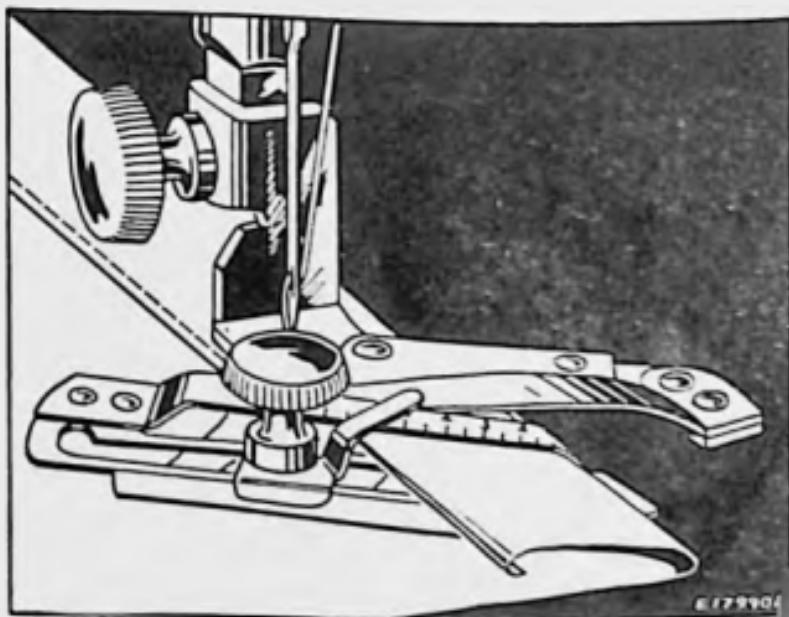

FIG. 42. SHOWING HOW ADJUSTABLE HEMMER IS USE FOR MAKING HEMS UP TO 15/16 INCH WIDE
- (3) Loosen the thumb screw on the hemmer and move the scale until the pointer registers with the number of the desired width of hem, No. 1 indicating the narrowest hem and No. 8, the widest, then tighten the thumb screw.
- (4) Place the cloth in the hemmer and draw it back and forth until the hem is formed, as shown in Fig. 42.
- (5) Draw the end of the hem back under the needle, lower the presser bar and commence to sew.
- (6) Guide sufficient cloth into the hemmer to turn the hem properly.